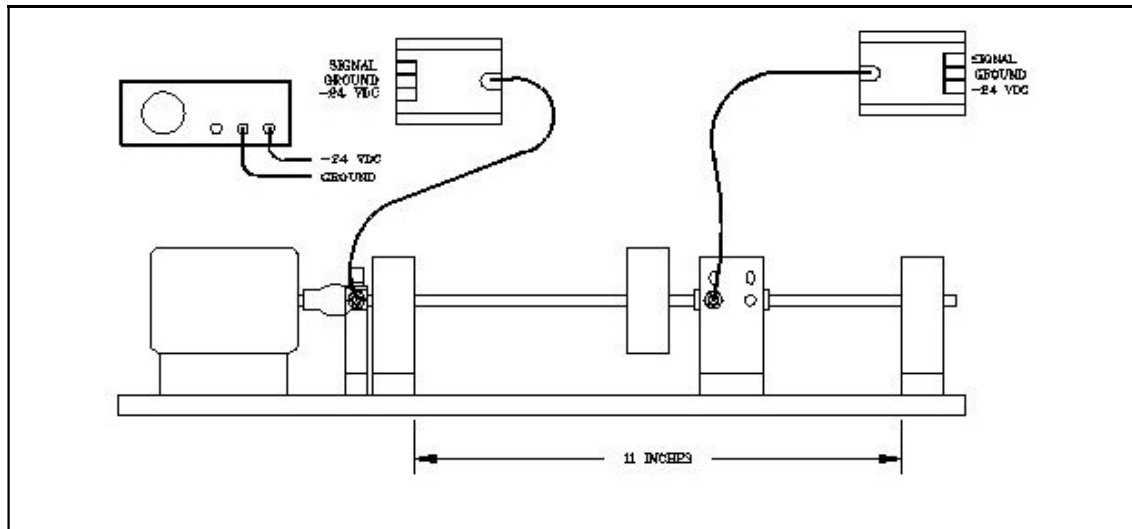

Fig. 11.3
Assemble the demonstration rotor using one (1) rotor mass, one (1) transducer, one (1) Phase pickup, and two (2) sleeve bearing assemblies, as shown in Figure 11.3. Center the rotor mass between the bearings. Install the vibration transducer in the horizontal orientation and position it to view the rotor shaft near the rotor mass. The Phase transducer and the vibration transducer should be position on the same side of the rotor.